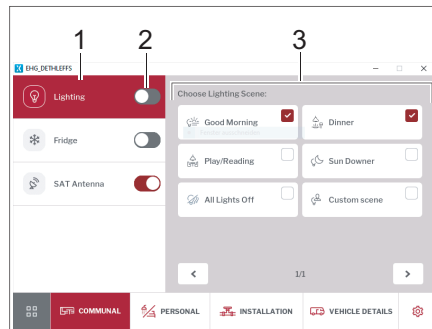

Fig. 281 Lighting
- Use the switch to turn the lighting (Fig. 281,2) on or off.
- Click on the *Lighting* (Fig. 281,1) button.
Select a lighting mode in the control panel (Fig. 281,3).